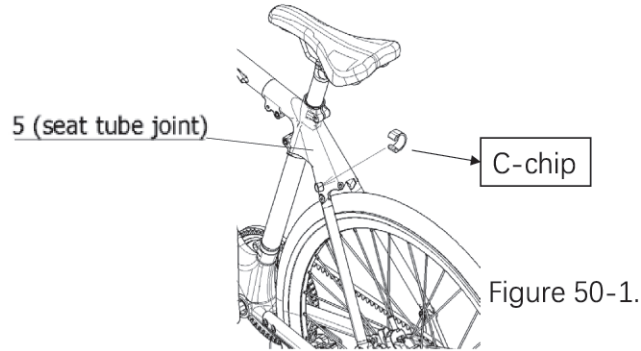

Figure 50-1.
b. Find the C-chip from the accessories box and clamp the rear brake cable and clip it on Part 5, as shown in Figure 50-1.